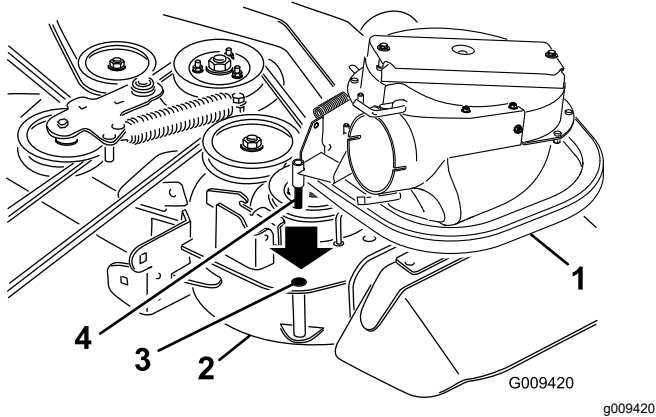
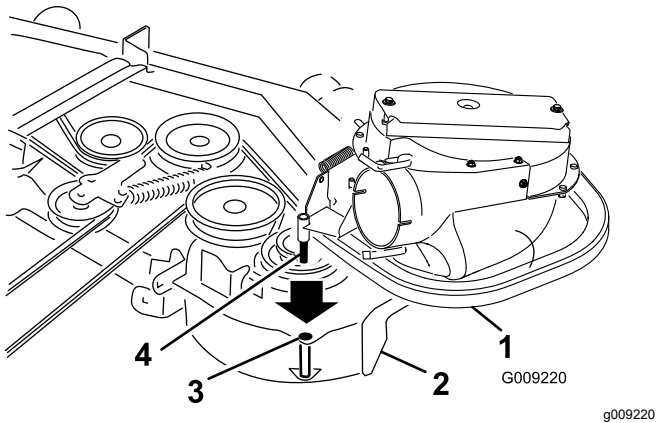

Figure 15
Figure 16
- Slide the blower-assembly peg into the pivot hole (Figure 15 or Figure 16).